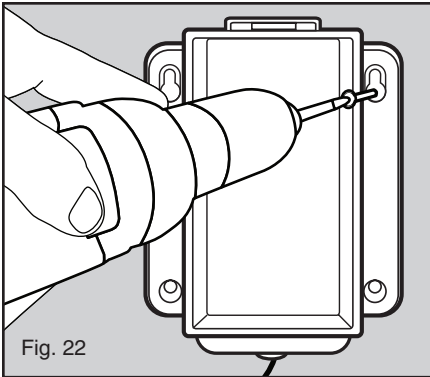

Fig. 22
23. Install the battery compartment onto the back or side wall under the countertop. Install it with the cable coming out the bottom and no further than 32" from the motor module (see figure 22).